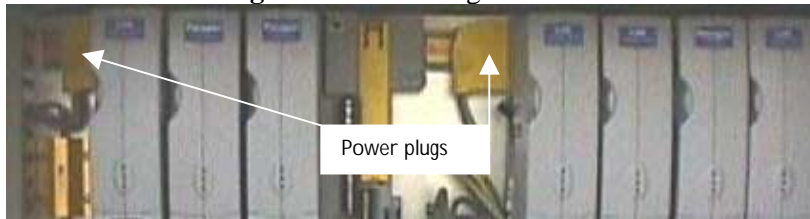

Figure 3.1 Plug out the Power Plugs
4. Plug out the power plugs supplying the conveyor and **AWA Motor Paragon Drives**. See fig 3.1.